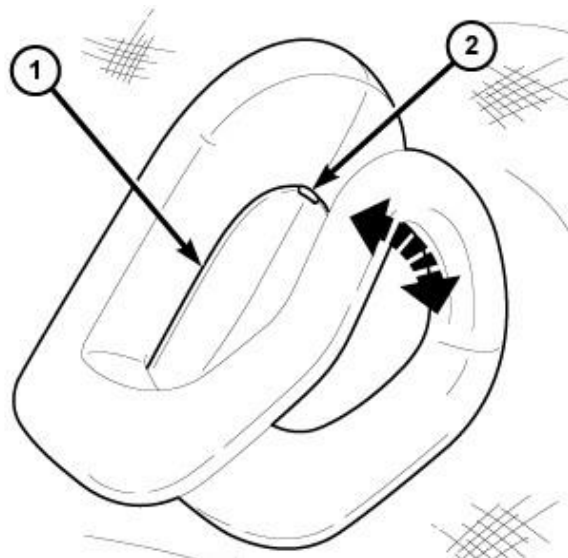

Figure 35 – Coat Hook
31. Using a small flat bladed tool, open the coat hook screw cover (2) then remove the screw and coat hook (Figure 35).
48. Position the coat hooks (5) onto the headliner and install the screws tightening securely into the mounting clips then close the screw cap fully (Figure 35).